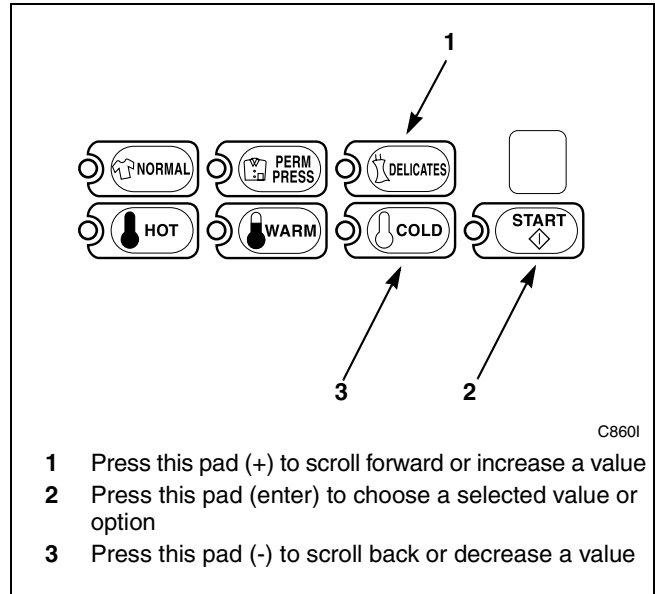

Figure 7
- Press the DELICATES (+) or the COLD (-) keypad to increase or decrease the current number until correct. Refer to *Figure 7*.